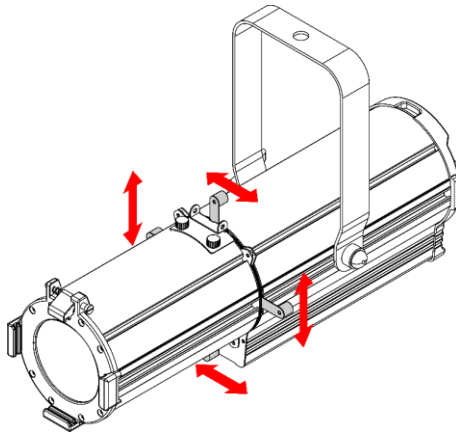

Fig. 14
Move the **framing shutters (03)** back and forth to modify the shape of the beam (see Fig. 14).